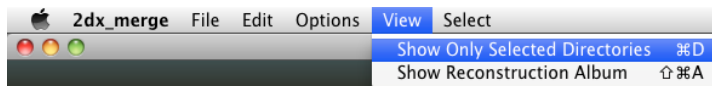

Figure 43: Shows only the selected images in the Project panel.
4. Now we visually inspect the phase origin change for each projection map by running the *Generate Image Maps* script. Therewith the projection map are updated with the refined phase origin and is reflected in the Image Preview panel. You can scroll through the images in the Images panel or the Project panel. If you only want to see the selected images in the Project panel you can select the option *Show Only Selected Directories* from *View* menus illustrated in Figure 43. The same menu option can be used to switch back to view all images.